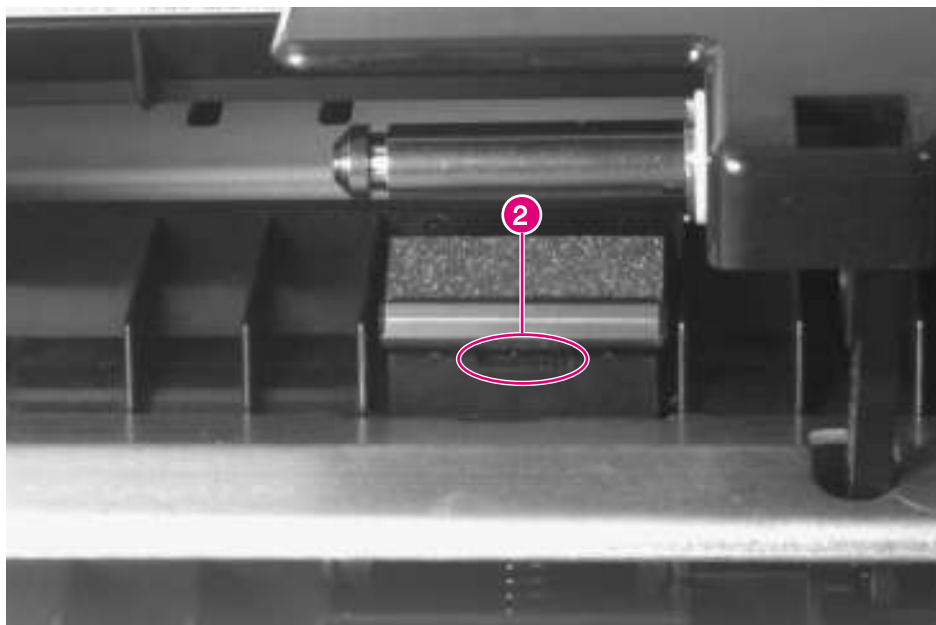

Figure 6-57 **Tray 1 Separation Pad**
- 2 Insert a flat-bladed screwdriver into the slot (figure 6-57, callout 2), and carefully pry the separation pad upwards out of its retaining notches.